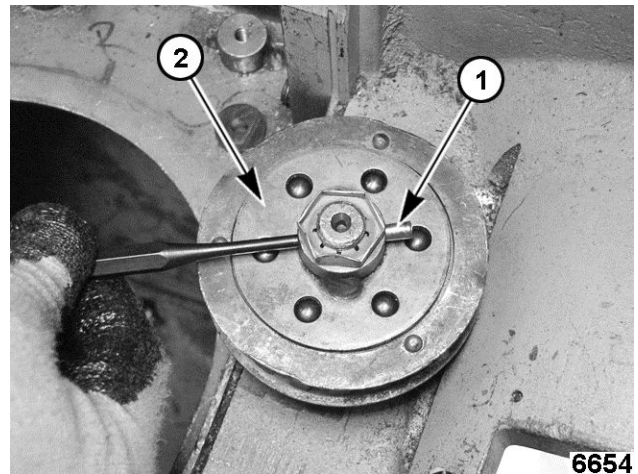

Fig. 154
6. Remove the pin (1, Fig. 154) from the detent plate and hub assembly (2, Fig. 154).
- A. Slowly loosen the nut on top of the detent plate Fig. 154 to relieve the tension from the detent springs.